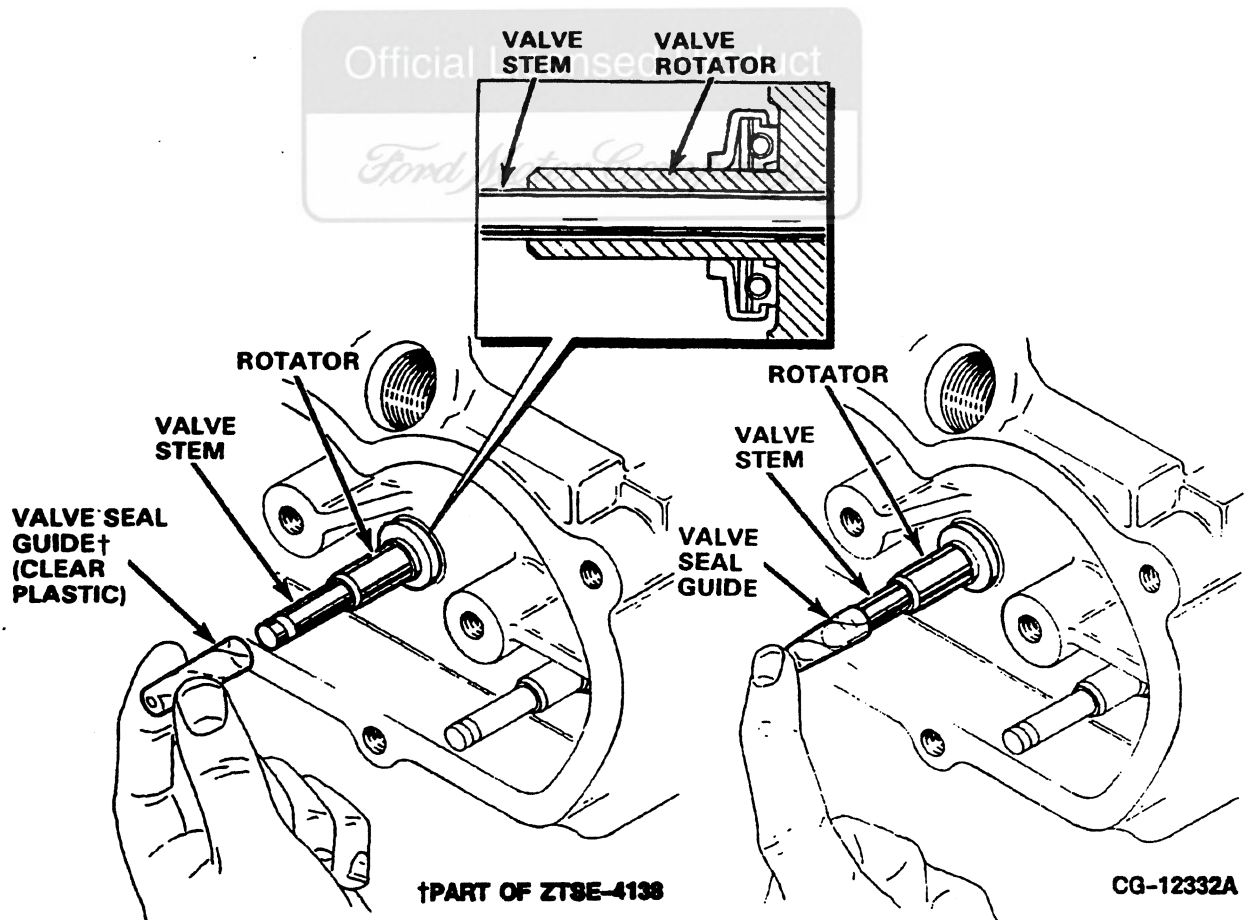

Figure 3.55. Valve Seal Guide Installation
b. Install valve rotators (Figure 3.55).
● Hold valve on its seat with one hand and install the clear plastic valve seal guide (part of ZTSE-4138) as shown in Figure 3.55.